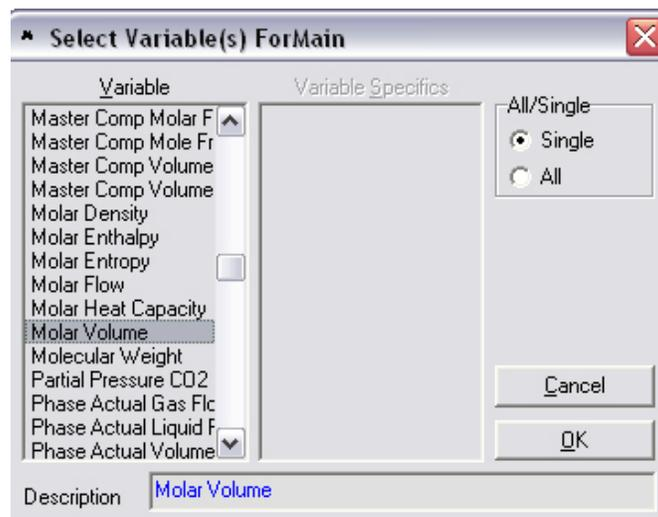

Figure 2-5
6. Window for you to select variables will appear as shown in Figure 2-5.